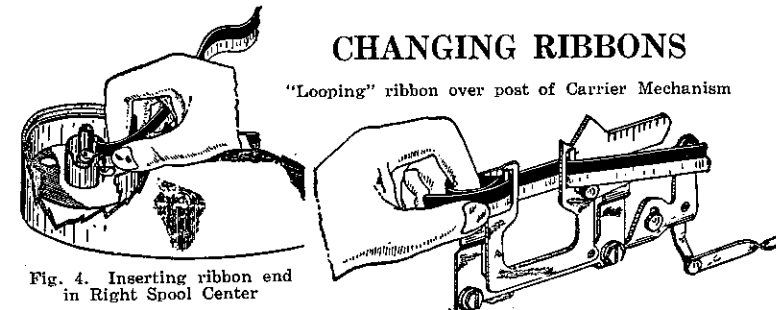

Fig. 4. Inserting ribbon end in Right Spool Center
14. RIBBON CARRIER. See explanation of Fig. 4.
16. RIBBON CARRIER. See explanation accompanying Fig. 4.
16. RIBBON CARRIER. Keeps ribbon in place between type and carrier. (See Fig. 4.)